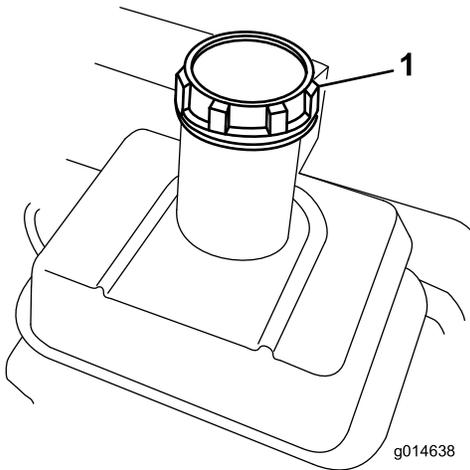

Figure 20
1. Clean around fuel tank cap and remove cap from tank (Figure 20). Using unleaded gasoline, fill fuel tank no higher than to bottom of filter screen. Do not overfill.